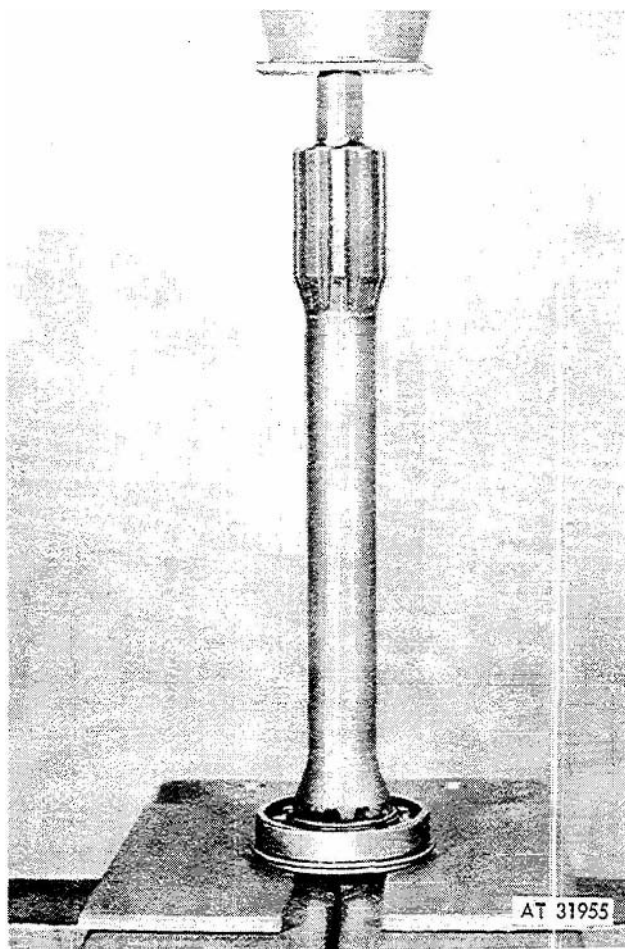

Figure 3-159. Pressing bearing on thru-shaft.
(22) Press bearing (10, fig 3-141) on shaft (11) with retaining ring side toward center of shaft (fig 3-159).